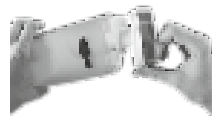

Figure 9:
- Remove the bottom cap from the tank and empty it through the opening in the base (see figure 9). Rinse the tank out with clean water (see figure 10).